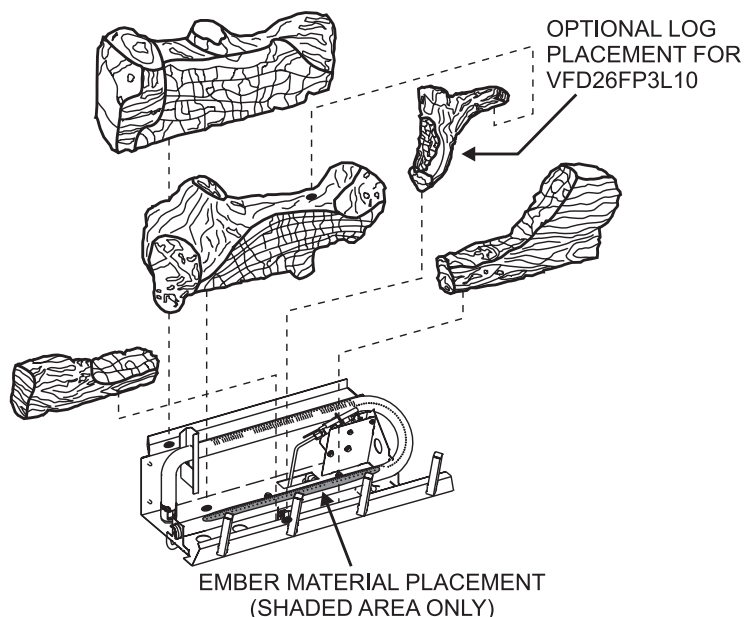

Figure 12
**Attention:** Do not use Figures 12 and 13 to order logs. Refer to Pages 34 to 35, Parts list and Page 36, Parts View to order logs.
**Refer to Figure 12 for the following warning.**